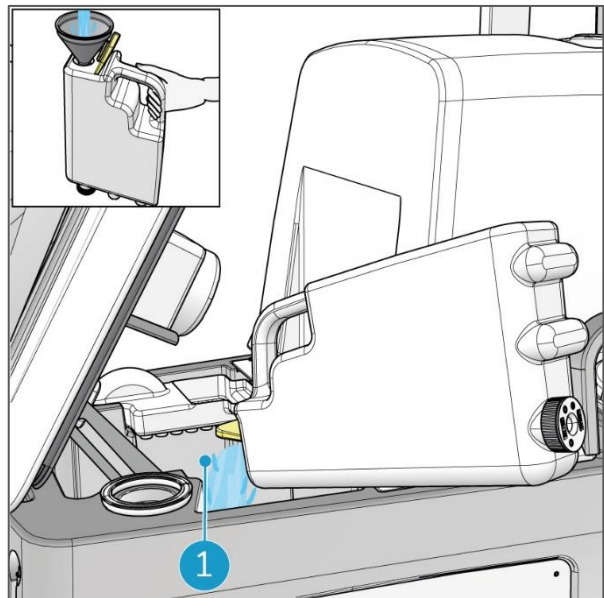

Figure 53
3. Hold the detergent tank by the handle and pour in approx. 2 liters of water, use a funnel. Shake it. Pour the contents into the recovery tank (Figure 53, pos 1).